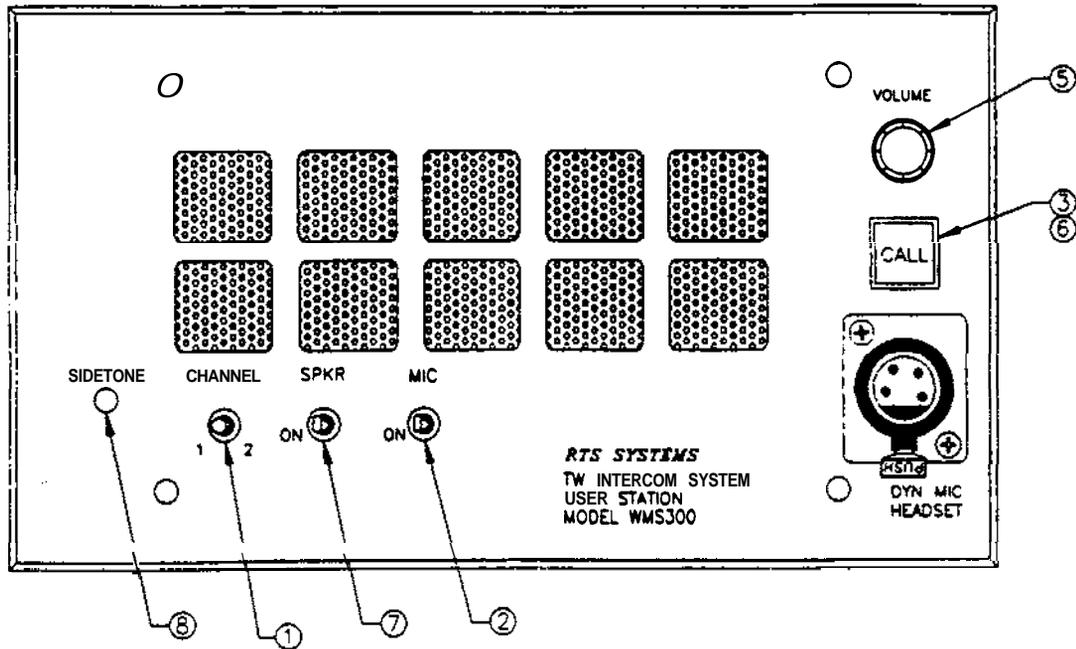

Figure 3-1
**3.1 Operating Controls(See Figure 3-1)**
Table 3-1 lists the Model WMS300 operating controls, with reference numbers corresponding to Figure 3-1.
#### **3.1 Operating Controls** (See Figure 3-1) (continued)